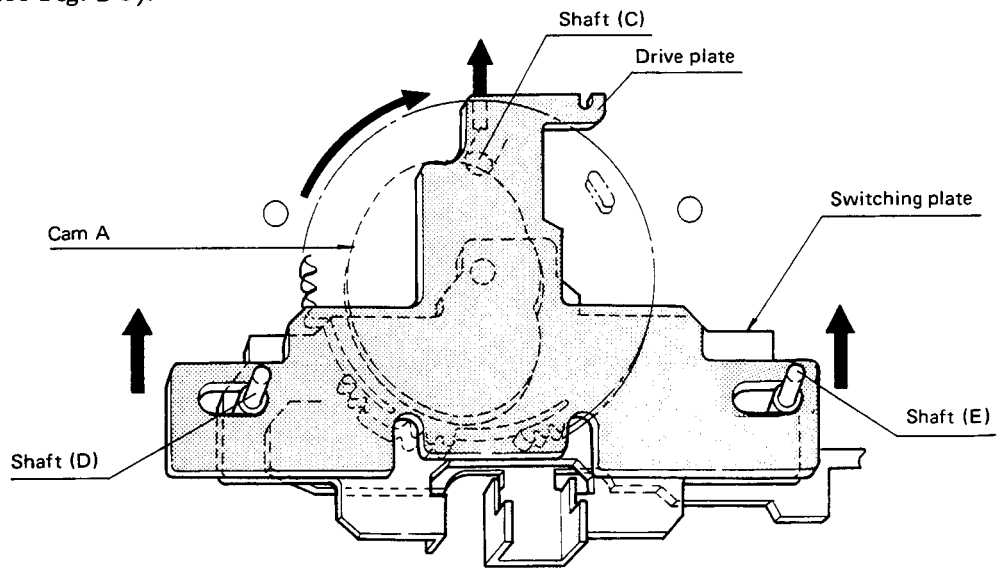

Fig. 1-5 Tape head lifting operation
After completion of the head inversion operation, the cam gear continues to turn, cam A lifting shaft (C) fitted into the drive plate. The drive plate has elongated holes on both the left and right hand sides, and by engaging shafts (D) and (E) fitted to the left and right hand sides of the switching plate to join the two plates together, the plates are lifted as a single unit (see Fig. 1-5).